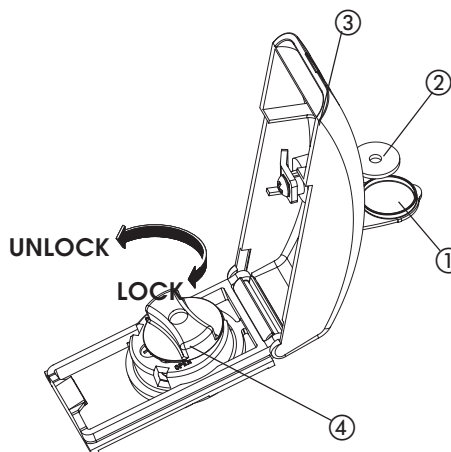

Fig. 16
- Lift the protective plug (Fig. 16, ref. ①) and fit the supplied key (Fig. 16, ref. ②).
- Turn the key 90° clockwise to open the cover.
- Lift up the cover (Fig. 16 ref. ③).
- Turn the release knob anti-clockwise for about two turns (Fig. 16, ref. ④).
- To re-lock the operator, turn the release knob clockwise until it stops (Fig. 16, ref. ④).
- Close the cover and turn the key 90° anti-clockwise (Fig. 16, ref. ②).
- Finally, remove the key and close the protective plug (Fig. 16, ref. ①).